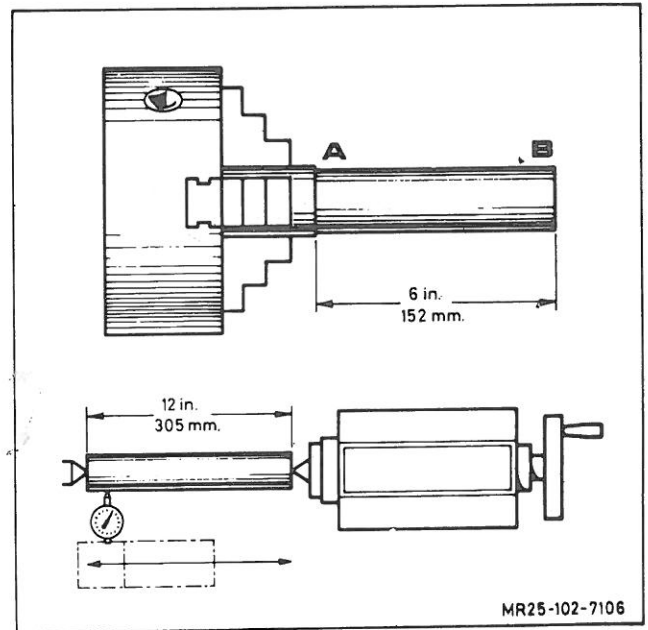

Fig. 17
**Headstock check:**— Take a light cut over a 6 in. (150mm) length of 2" dia. (50mm) steel bar held in the chuck (but not supported at the free end). Micrometer readings at each end of the turned bar (at A and B in Fig. 17) should be the same.
**Tailstock check:**— Using a 12 in. (305mm) ground steel bar between centres, check alignment by fitting a dial test-indicator to the topslide and traversing the centre of the bar (Fig. 17).